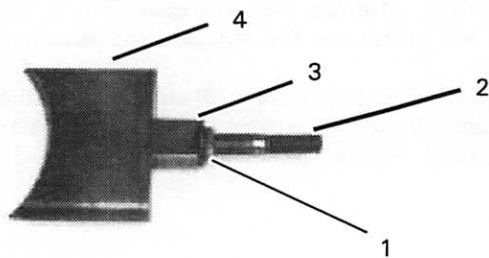

Figure 73
6. Loosen the hex nut (1, Figure 73) and unscrew the valve rod (2, Figure 73) with its washer (3, Figure 73) from the exhaust valve (4, Figure 73).
2. Inspect the exhaust valve (4, Figure 73) for:
- The valve rod (2, Figure 73) has one long and one short threaded end. Install the nut on the long threaded end.
- Install the washer (3, Figure 73) over the valve rod and seat it against the nut. This washer must seat between the nut and exhaust valve.
- Secure the exhaust valve in a vise, then tighten the nut (1, Figure 73) securely against the exhaust valve.